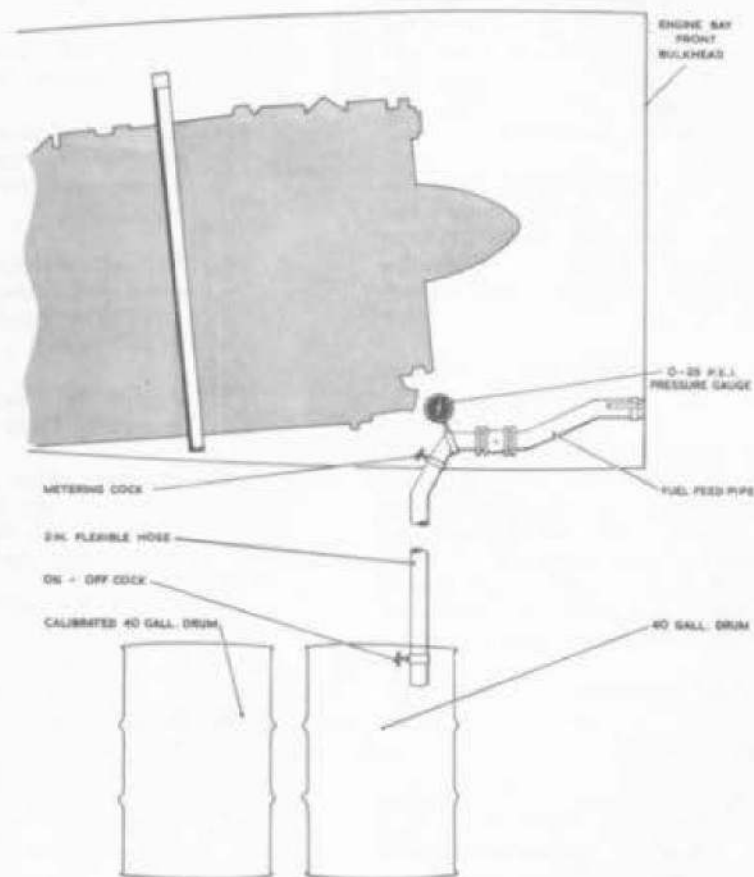

Fig.11. Fuel system test equipment
57. The equipment required to carry out pump calibration and feed line checks, consists of a 2 in. flexible hose, two 40-gallon drums, one carefully calibrated in 10-gallon stages and a stop watch. Incorporated in the 2 in. flexible hose, an on-off cock at the outlet end, a cock, to be used as a metering cock, fitted in the hose at a sufficient distance from the inlet end to enable 0-25 p.s.i. pressure gauge to be tapped into the hose between the inlet end and the metering cock. This equipment is fitted to the aircraft is illustrated in fig.11.